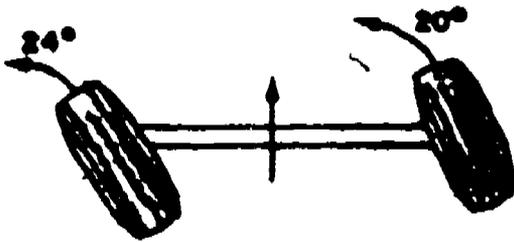

Figure 1
- 26. Figure 1 shows _____ steering geometry.